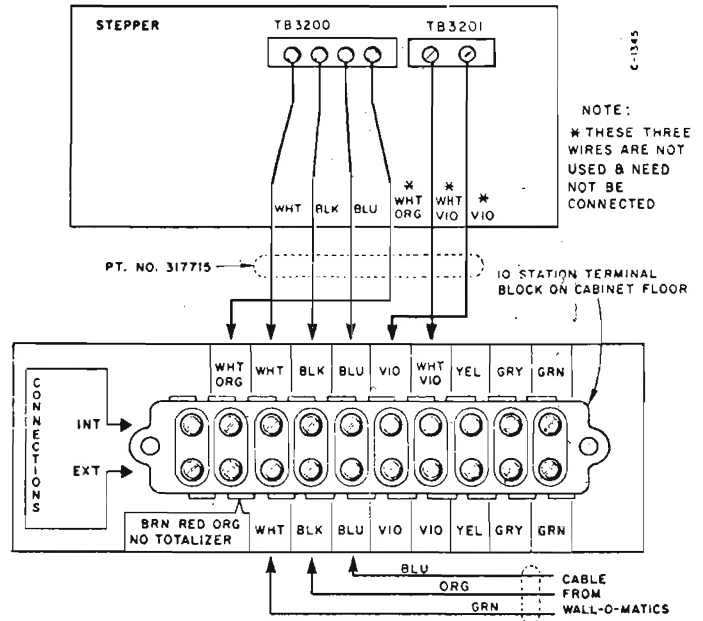

Figure 3. Stepper and Wall-O-Matic Connections.
4. Install the 10-Station Terminal Block, (Part No. 487803) and Terminal Block Label (Part No. 317716) on the cabinet wall as shown in Figure 3. Use two No. 8 x 1 inch sheet metal screws (Part No. 960969).
9. Connect the Remote Control Cable Assembly (Part No. 317715) between the Terminal Block and the Stepper, as shown in Figure 3.